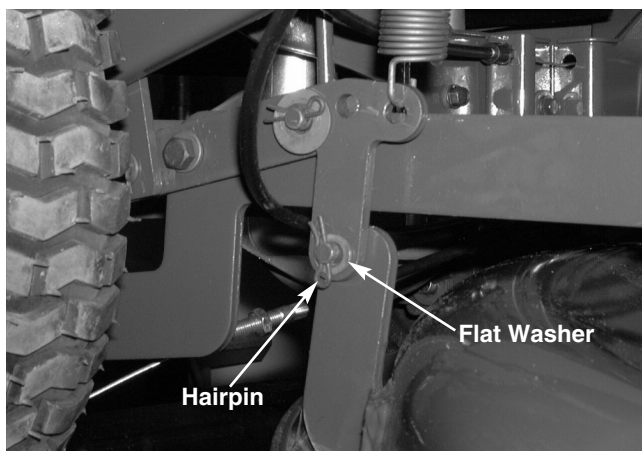

FIGURE 7.
- 7). Remove both small hairpin clips and flat washers that secure the rear deck support pins to the lower "T" links. See figure 7.